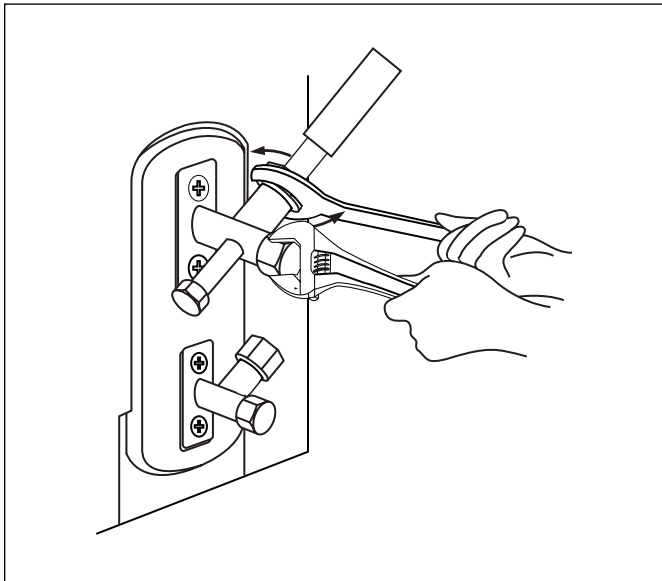

Figure 27
4. Using a wrench, hold the body of the valve. Do not grip the nut that seals the service valve. See Figure 27.